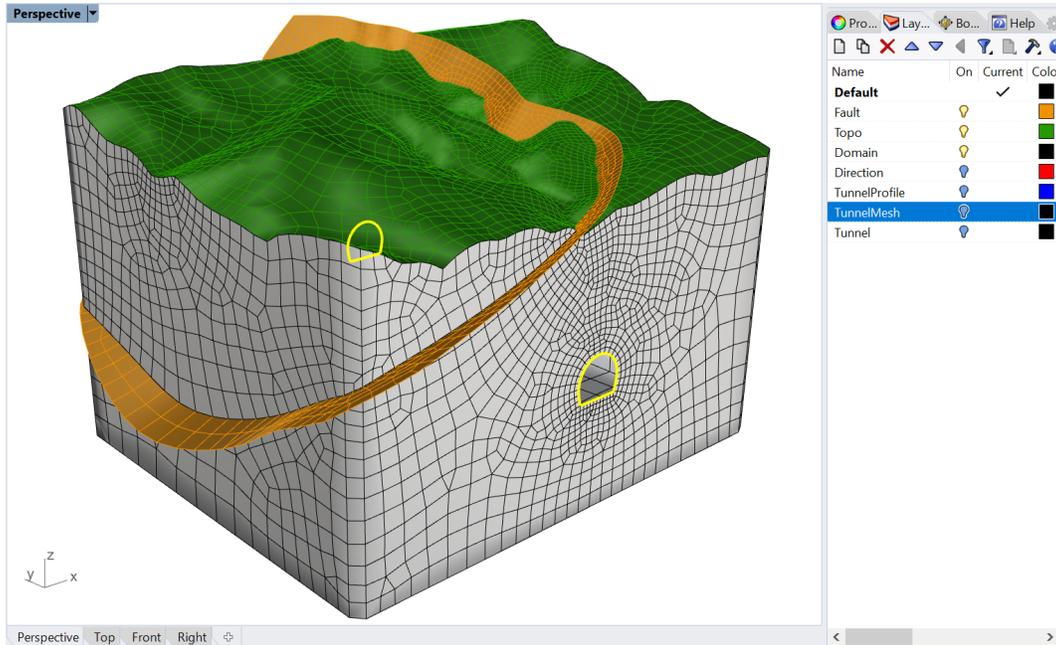

Figure 62: Result of remeshing of all meshes (except for the tunnel mesh) while preserving mesh edges and nodes along the tunnel borders (hard edges).
39. Select all objects again with **Ctrl+A** and use **GSurf** to remesh the meshes. Because the duplicated tunnel borders are selected as well (red curves in Figure 61), they will serve as hard edges to preserve conformity with the tunnel mesh. Use the following parameters for **GSurf**: *Mode = QuadDom*, *MinEdgeLength = 1*, *MaxEdgeLength = 10*, *RidgeAngle = 40*, and keep all other parameters at default values. After **GSurf** completes remeshing, the duplicated tunnel borders stay selected. Delete them, as they are no longer needed (Figure 62).